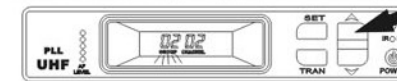

FIGURE 16
b. Press the  $\Delta$  or  $\nabla$  buttons. Choose the group's data which you need(Figure 16).